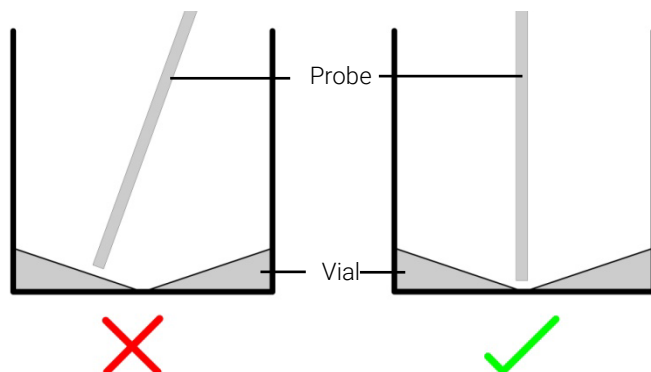

Figure 13 Probe positioning in a sample vial
- 8 Check the probe is correctly aligned, refer to Figure 13. The probe should almost reach the bottom of the vial but not actually touch it. If the end of the probe is too far from the bottom of the vial, or if it touches the bottom of the vial: